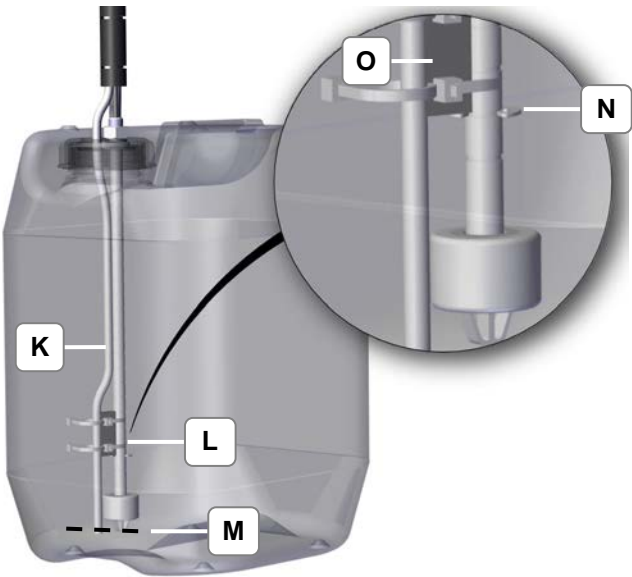

Figure 4.5.5: Water hose and cable
<ul style="list-style-type: none"><li>• The trouble-free functioning of the pump operation is guaranteed when water hose (K) and cable (L) are set to the same level (M) (Figure 4.5.5)-</li></ul>